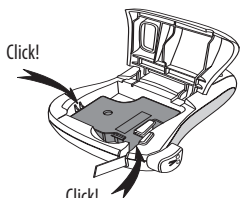

Figure 5
3. Press firmly until the cassette clicks into place. See Figure 5.